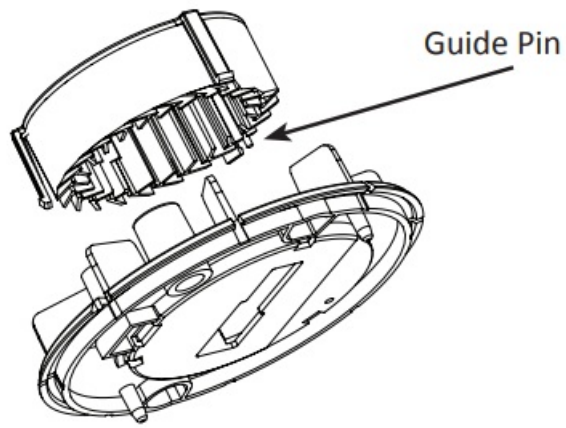

FIGURE 5
7. After cleaning with clean compressed air, replace the optic cage by lining up the three connector arms and the guide pin into the optic cage ring and gently pushing until it clicks (FIGURE 5).